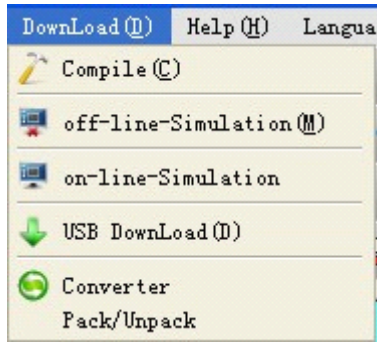

Figure 2-34: Download menu
“Download” menu is used to compile and download configuration project, consisting of four commands, that is Compile (C), Off-line Simulation (M), USB Download (D) and Compile + Download (A). After the touch screen is connected to PC via USB cable, you can download the configuration project to the touch screen after compiling the configuration project. See Figure 2-34: